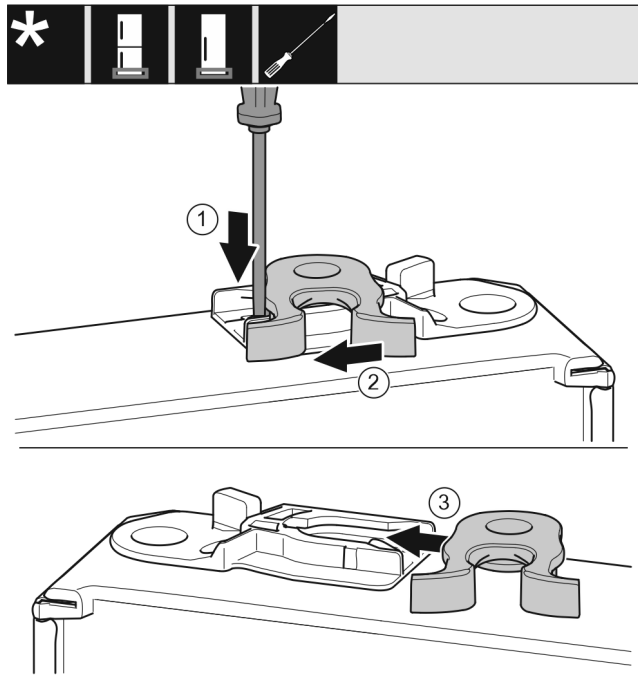

Fig. 19
- Use a slotted screwdriver to push the tab Fig. 19 (1) downwards.
- Pull the closing hook Fig. 19 (2) out of the guide.
- Insert the closing hook Fig. 19 (3) into the guide on the other side.